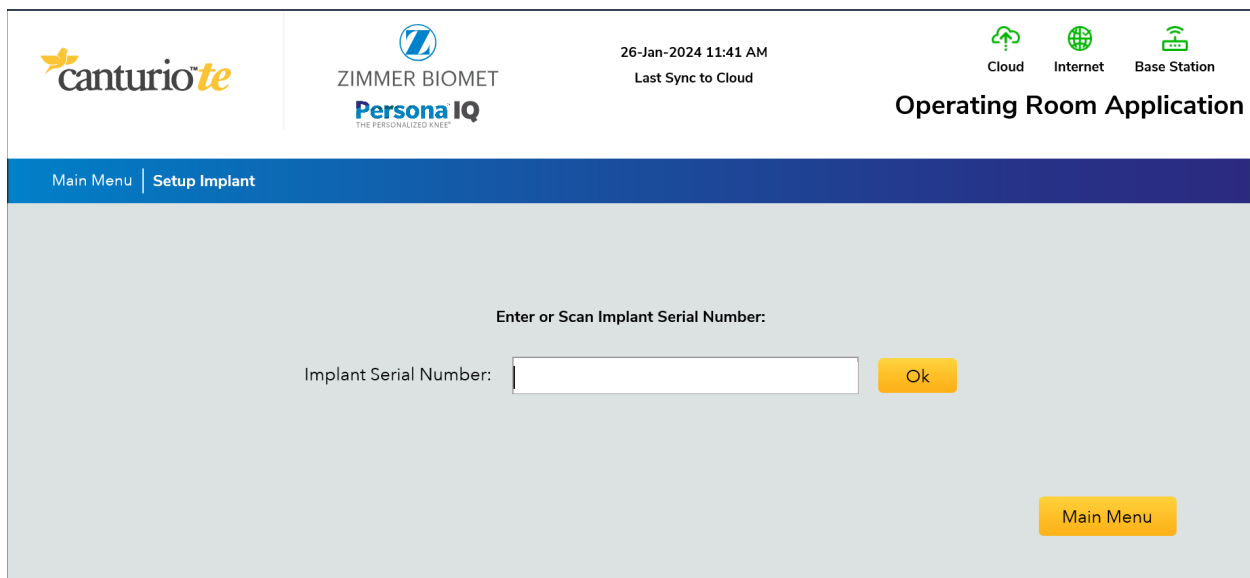

Figure 8: Setup Implant: Enter or Scan Implant Serial Number
10. Click in the text box and enter or scan the implant serial number from the implant package. Click “OK.” (**Figure 8**).